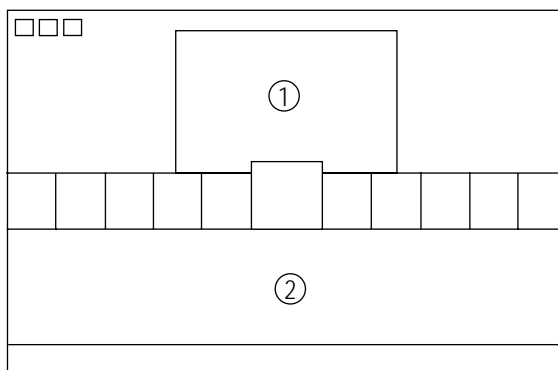

Fig. 4-4
1. Set SBT to  $3.5 \pm 0.5$  fL in the Factory Service Mode with using CA100. See Fig. 4-4 ②.
1. Set SCT to 55 FL (20". 21"), 65 FL(14") in the Factory Service Mode with using CA100. See Fig. 4-4 ①.